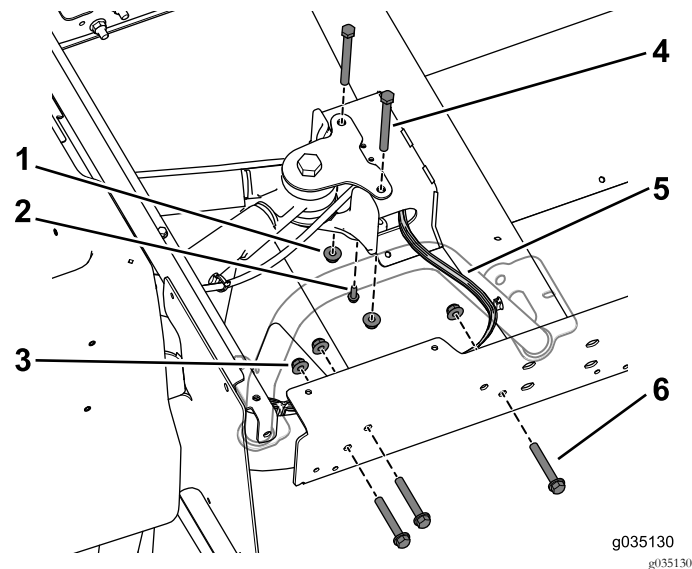

Figure 77
8. Use the 3 bolts (3/8 x 2-1/2 inches) and flange nuts to loosely install the extension rail to the rear frame (Figure 77). Do this on both sides of the machine.
Note: Ensure that the wire harness exits the center channel on the right side (Figure 77).
9. Use the self-tapping screw (1/4 x 3/4 inch) to attach the brake line tee to the center channel (Figure 77).
10. Use the 2 bolts (3/8 x 3-3/4 inches), and flange nuts to loosely install the center channel to the rear mount (Figure 77).